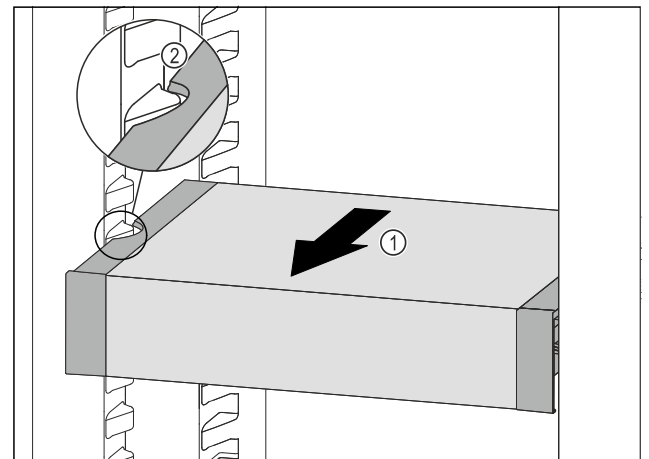

Fig. 98
- Pull VarioSafe forwards *Fig. 98 (1)* until the recesses in the side of the VarioSafe are at the level of the support rib in the fridge section. *Fig. 98 (2)*